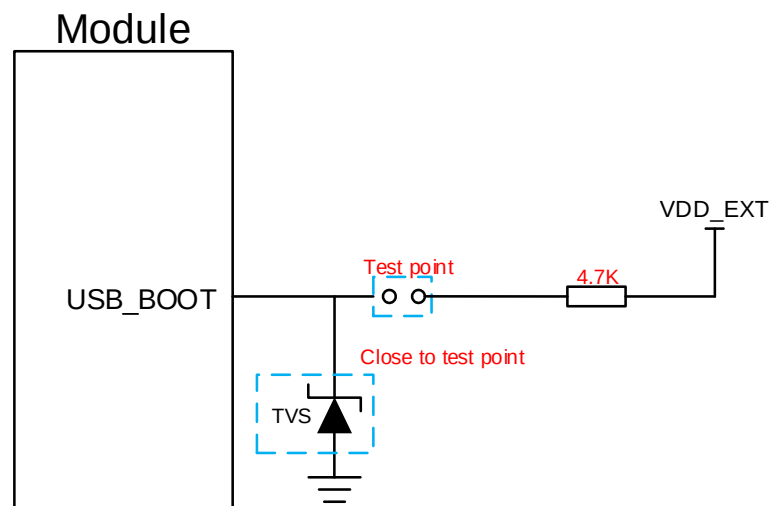

Figure 27: Reference Circuit of USB_BOOT Interface
3. If you need to manually force the module to enter forced download mode, directly connect the test points shown in **Figure 27**.